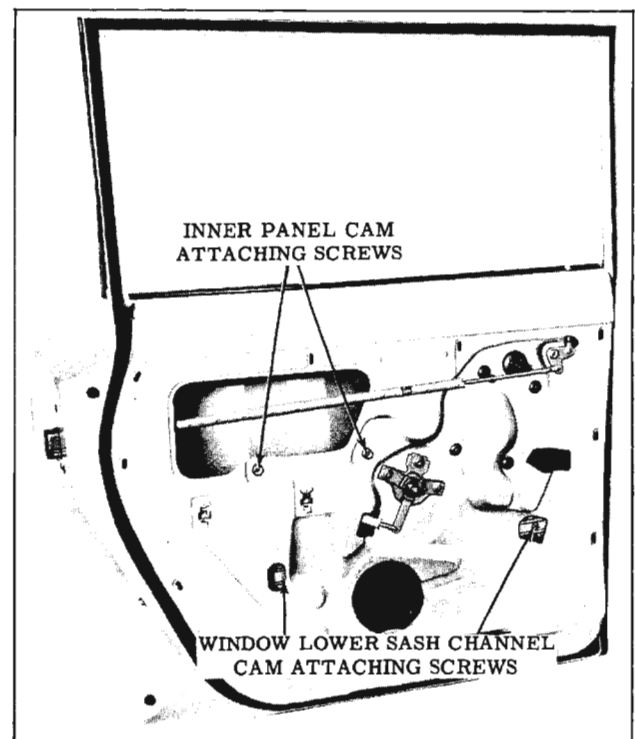

Fig. 16-259 Inner Panel Cam and Window Lower Sash Channel Cam Attachment
1. Raise door window, remove door trim pad and detach inner panel water deflector sufficiently to expose inner panel cam attaching screws. (Fig. 16-259)
2. Lower door window sufficiently to gain access to sash channel cam attaching screws, through access holes in door inner panel, and remove screws. (Fig. 16-259)
3. Carefully lower door window. Through access holes in door inner panel, remove screws securing window lower sash channel cam to window lower sash channel. (Fig. 16-259)
2. To correct a condition where the glass is cocked in the glass run channel, loosen door window inner panel cam front and/or rear attaching screw(s), adjust cam as required and tighten screws. (Fig. 16-259)